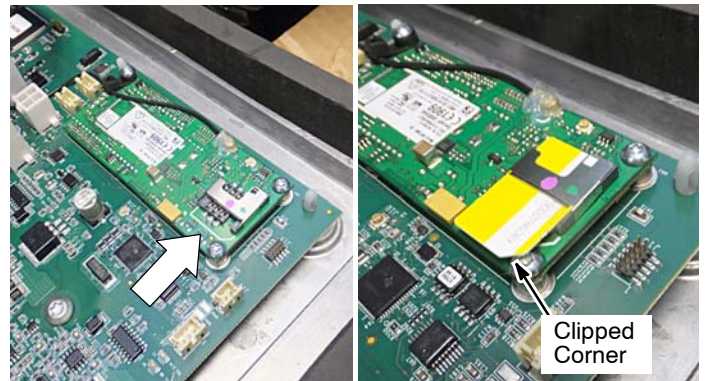

Fig. 10
12. Fully insert the existing SIM card into the new control board (Figure 10).